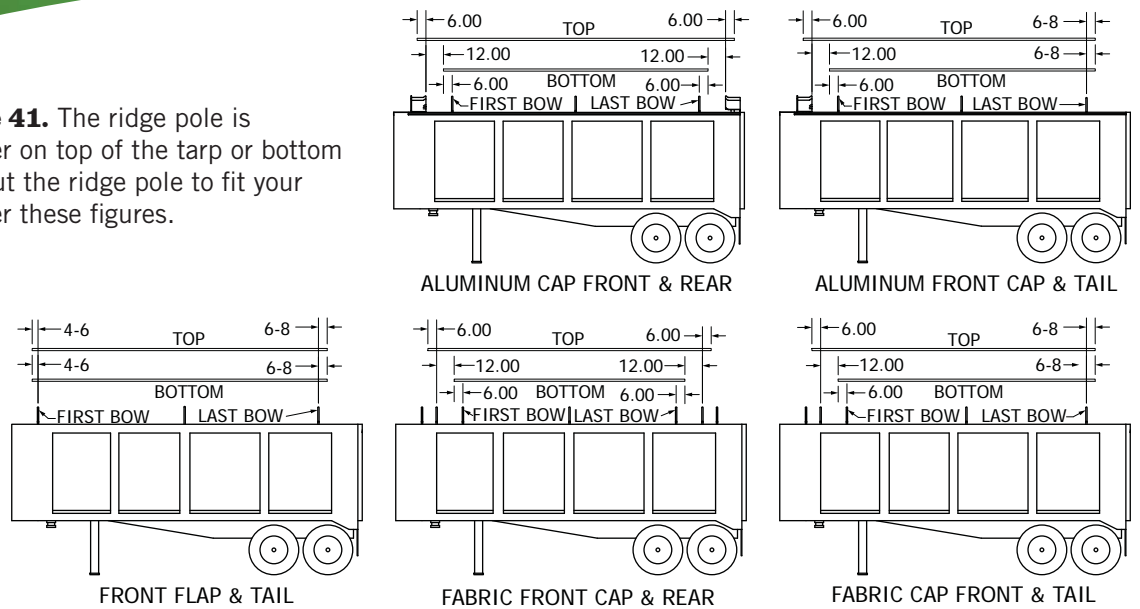

Figure 41
2) See Figure 41. The ridge pole is installed either on top of the tarp or bottom of the tarp. Cut the ridge pole to fit your installation per these figures.